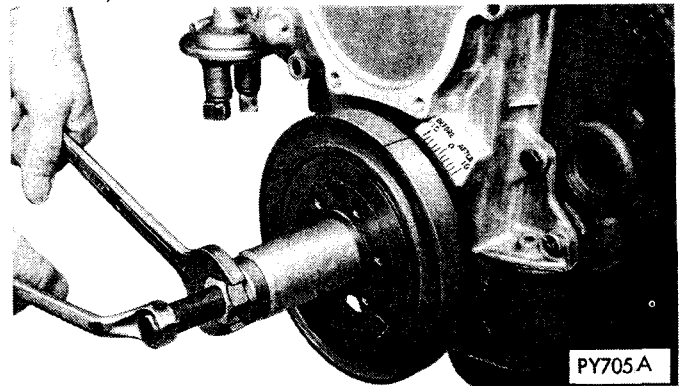

Fig. 25—Installing Vibration Damper Assembly
(1) Be sure mating surfaces of chain case cover and cylinder block are clean and free from burrs.
(2) Using a new gasket carefully install chain case cover to avoid damaging oil pan gasket. Tighten chain case cover capscrews to 30 foot-pounds first then tighten oil pan capscrews to 200 inch-pounds.
(3) Lubricate seal lip with lubriplate, position vibration damper hub slot on key in crankshaft, and slide on crankshaft.
(4) Place installing tool, part of Puller set Tool C-3688 in position and press vibration damper on crankshaft (Fig. 25).
(5) Install vibration damper retainer bolt with washer and tighten to 135 foot-pounds.
(6) Position pulley on vibration damper and attach with bolts and lockwashers. Tighten to 200 inch-pounds.
(7) Install fuel pump and fuel lines.
(8) Install water pump and housing assembly using new gaskets. Tighten bolts to 30 foot-pounds.
(9) Install power steering pump.
(10) Install radiator, fan and belt, hoses and close drains.
(11) Fill cooling system.
(12) With timing indicator on "0" install distribu-